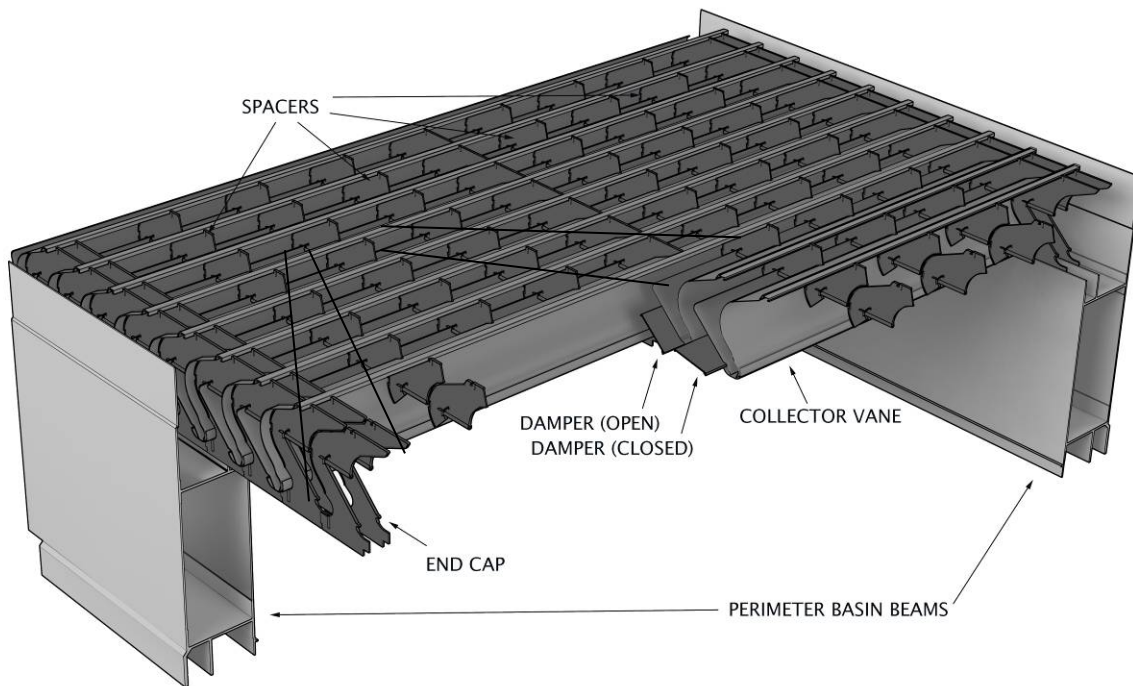

Figure 58 – Water Collection System
- **Collector Vanes:** Each collector vane is approximately 8" wide and 14" high and is installed transversally in the tower module. Collector vanes are a series of overlapping chevron-shaped troughs that capture cooled water falling from the fill media and channel it into the perimeter basin beams. Refer to Figure 58.
- **End Caps** help hold the collector vanes together and secure the Water Collection System to the Perimeter Basin Wall to prevent leaks. End caps are installed in pairs (~2.5" apart) at the end of each collector vane. One End Cap is also installed at the center of each collector vane. Refer to Figures 58 and 59.
- **Spacers** installed ~15" apart along the entire length of each collector vane fasten the Water Collection System together. Refer to Figures 58 and 59.
- **Secondary Drainage Channel Drainage Holes.** Each end of a secondary drainage channel has a drainage hole (or notch) located between each pair of end caps. The drainage hole allows any water flowing in a secondary channel to escape into the perimeter basin beam. These holes are hidden from view and can only be felt by hand. If a secondary channel's hole or notch becomes plugged by scale, dirt or debris, water may overflow the secondary channel into the fan area. Refer to Figures 58 and 60.
- **Dampers.** Installed between collector vanes on the bottom of the Water Collection System, dampers are designed to open automatically when the fan beneath it is turned ON, and to close automatically when the fan beneath it is turned OFF. Dampers thereby help contain airborne water drops inside the Water Collection System. Dampers require periodic visual inspection to ensure they are opening and closing fully and freely. Refer to Figure 58.